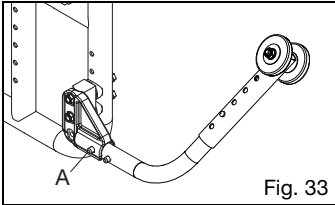

Fig. 33
### How to Turn the Anti-Tip Tubes Up (Fig. 33)
1. Press the rear anti-tip tube release pin (Fig. 33:A).